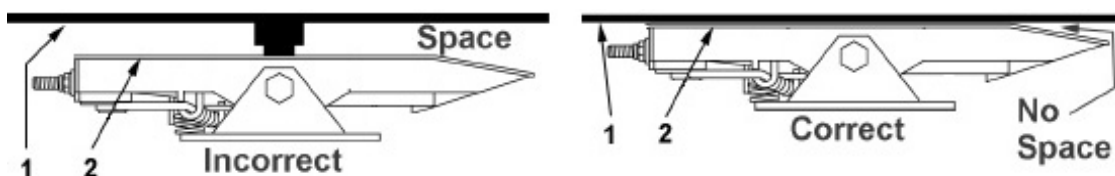

Figure 3-4 Fifth Wheel Checks
9. Inspect the coupling. See figure 3-4. Verify there is no space between the kingpin plate and the fifth wheel. **If there is space**, the kingpin may be on top of the fifth wheel jaws. Raise the trailer with the landing gear, pull the fifth wheel release lever and pull the truck ahead. Repeat steps 6-9 again to couple the trailer correctly.